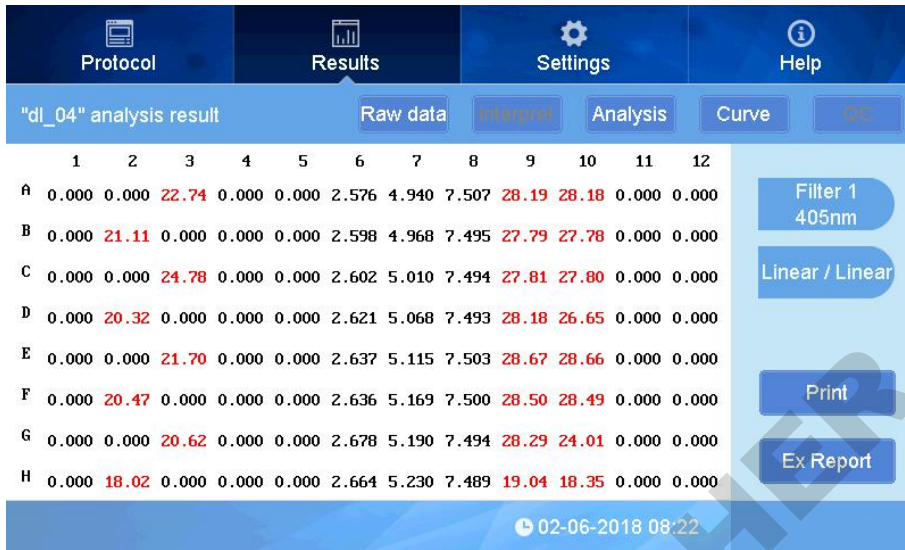

fig 38
- Concentration : This protocol is not set with kinetic measurement, it is only set as sample concentration calculated according to the standard sample curve by curving fitting. There are also results for standard samples according to the standard curve, this result is different to value input to the Layout(Fig 38).